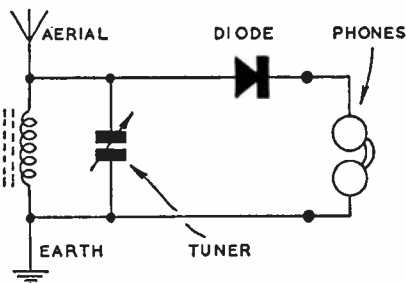

Fig. 1—(left) The circuit
fairly stiff wire is then threaded through the holes in the canes and spacers as shown in Fig. 1 (A). The ends of the wire are twisted together and bent down to form a hook on which to hang the spring balance.
A framework is next made up from heavy galvanized wire as shown in Fig. 1 (B). This is covered with a piece of material such as canvas or heavy cloth in the form of a sleeve which can easily be slipped on and off for washing. Two lengths of cord are attached at the corners as shown.
Fig. 1 is the circuit, and will usually give good headphone reception up to a distance of 50 to 100 miles or so from a BBC station. No battery, or other power supply is needed.